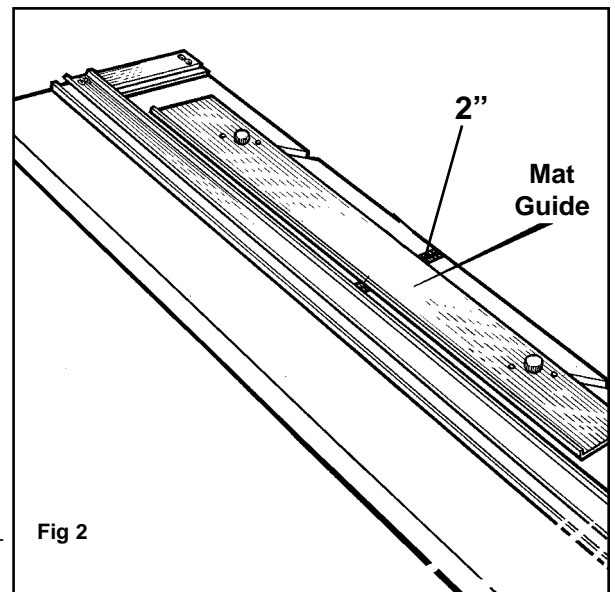

Fig 2
2. Set the Mat Guide to the desired border width. For example for a 2” border align the *back* of the Mat Guide at the 2” mark and tighten the Black Knobs. **Fig. 2**